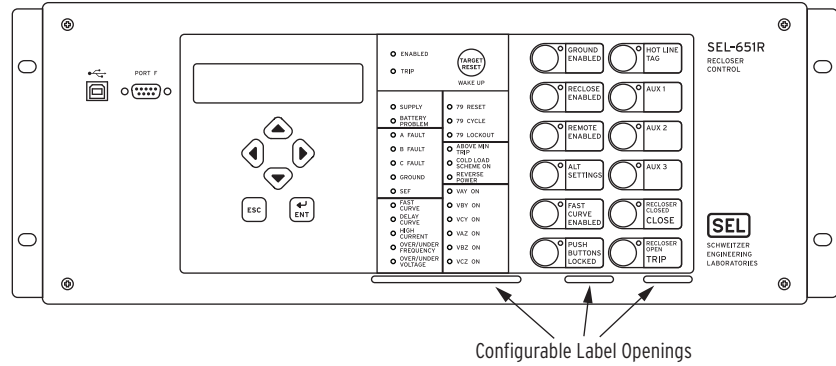
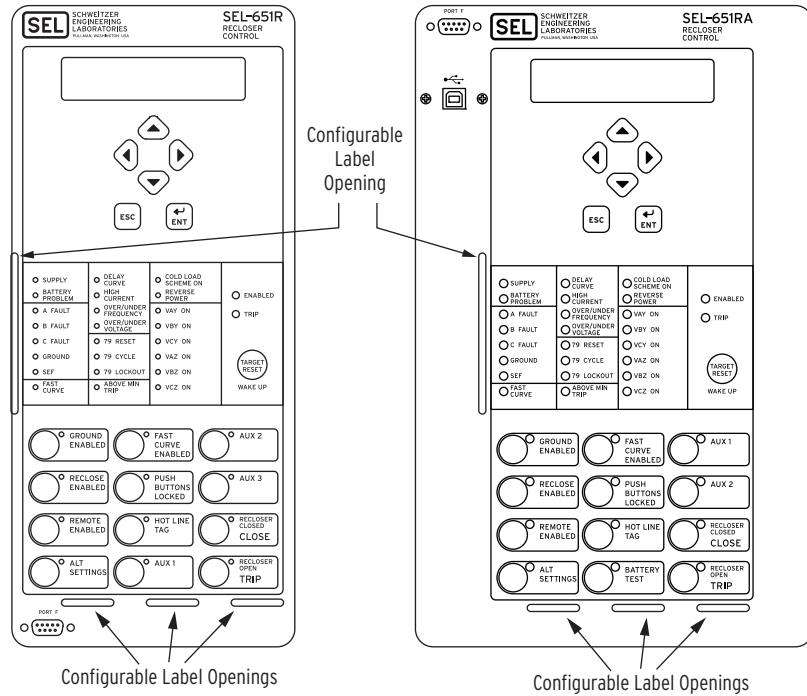

Figure 1 SEL-651R (Dual-Door Enclosure) Configurable Labels Area With Factory-Default Labels
Figure 2 SEL-651R (Single-Door Enclosure) and SEL-651RA Configurable Labels Area With Factory-Default Labels
The SEL-651R and SEL-651RA Configurable Labels Kit provides the materials and information needed to customize the target LED and operator control pushbutton areas of the front panel. *Figure 1* and *Figure 2* show the pocket areas and openings.
- Step 1. Slide the tip of the tool under the label at the pocket opening (see *Figure 1* and *Figure 2* for example opening locations).